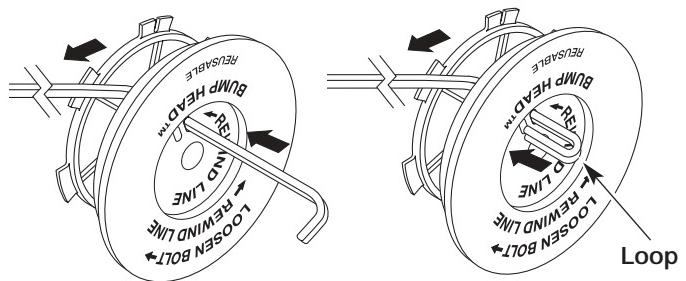

Fig. 17
9. Insert the end of the line into the open hole in the inner reel and pull the line tight to make the loop as small as possible (Fig. 17).